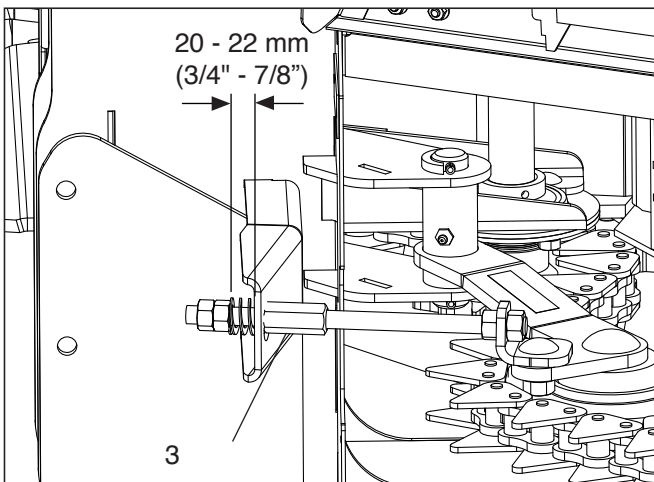

Figure 31
A spring (item 3) absorbs shocks during operation (figure 31). Check spring tension. It must be pre-compressed between 19 and 22 mm (3/4" to 7/8"), **when the chain is completely loosen.**